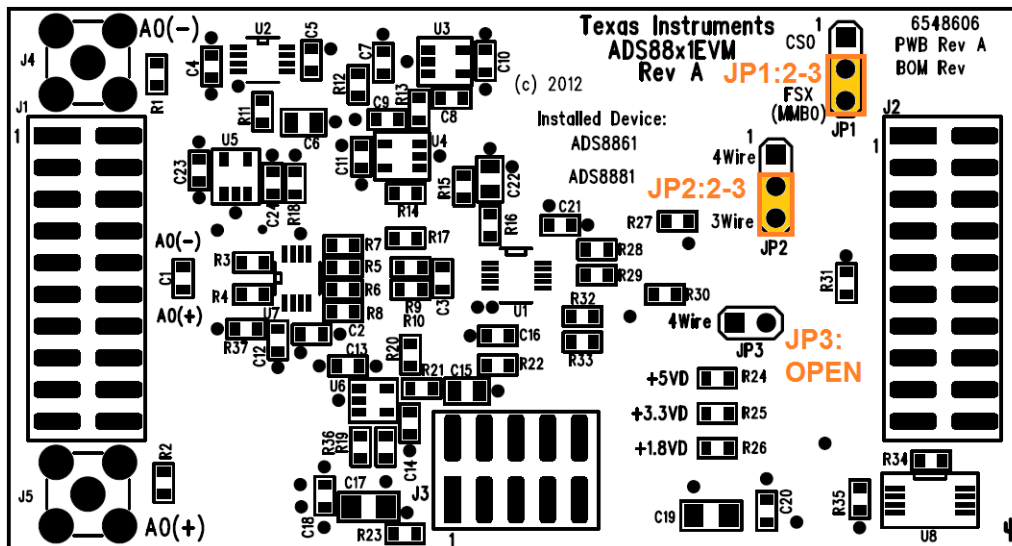

Figure 8. ADS8861EVM Jumper Configuration
- Set JP1:2–3, JP2:2–3, and JP3:open on the ADS8861EVM, as shown in Figure 8.